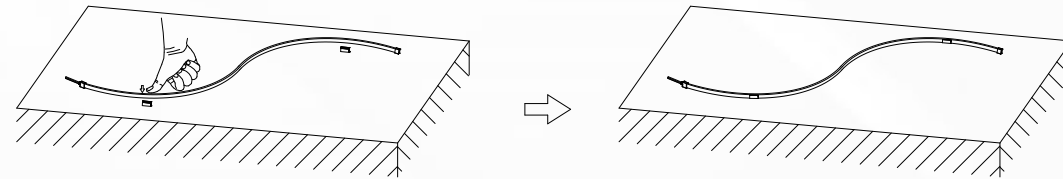

Figure 2
2. Install the neon flex into the clip, the installation is complete, as shown in Figure 2.